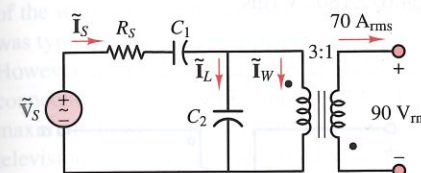

Figure P7.49
7.49 Assume the transformer shown in Figure P7.49 delivers 70 A rms at 90 V rms to a resistive load. What is the power transfer efficiency between voltage source and load? Let $R_s = 2 \Omega$, $X_{C1} = -10 \Omega$, $X_{C2} = -5 \Omega$.